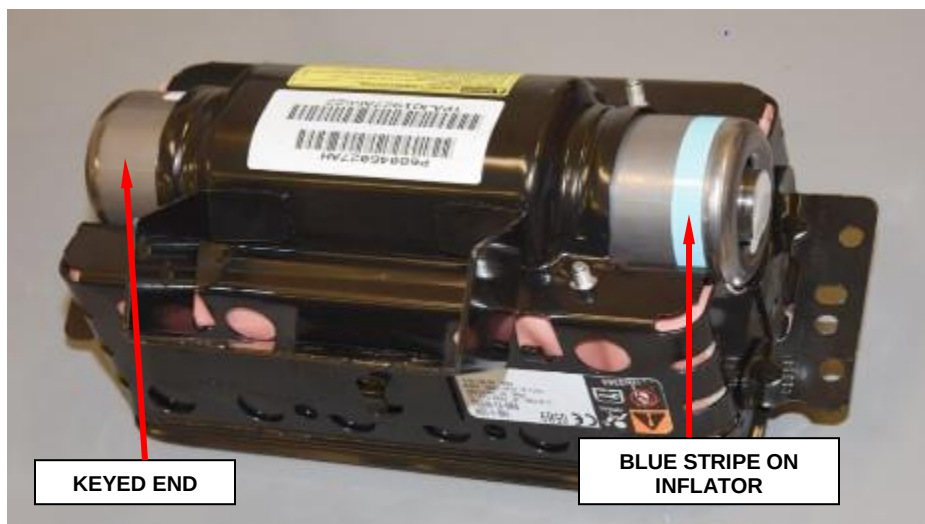

Figure 65 – Insert Inflator (Shown with Cushion Installed)
- j. Slide **new** inflator into housing. The keyed end is inserted first, therefore the blue stripe on the inflator will be located at the open end, as shown (Figure 65).